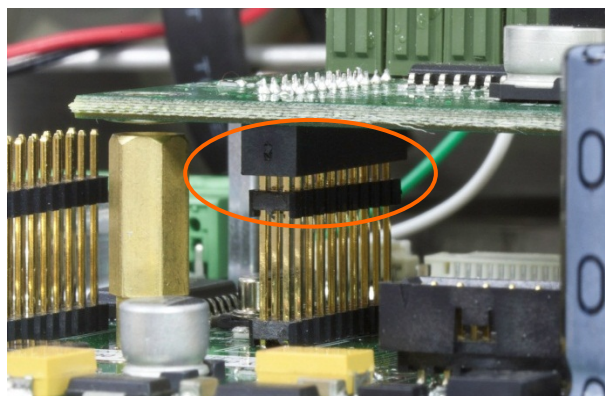

Figure 5-16: Aligning Option Board Pins
3. Gently press the option board down so that all the pins on the main board connector slide into the socket on the bottom of the option board. When properly installed, each pin will insert into a corresponding hole in the connector. Refer to Figure 5-16